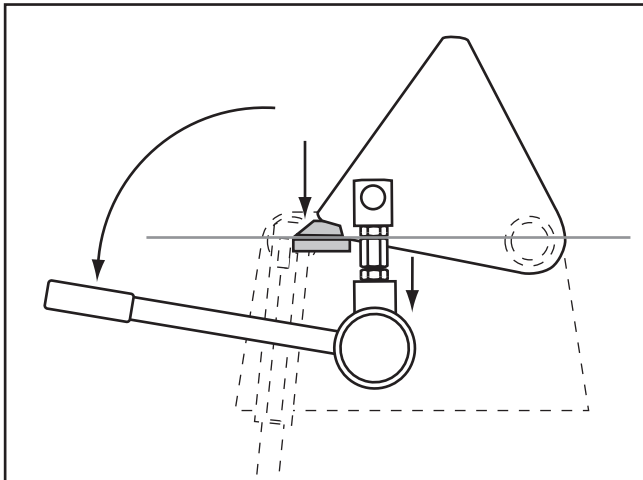

Figure 12. Clamping workpiece.
3. Align the area on the workpiece to be bent with the edge of the clamping leaf and clamp the workpiece in place using the clamping leaf handle (**Figure 12**).